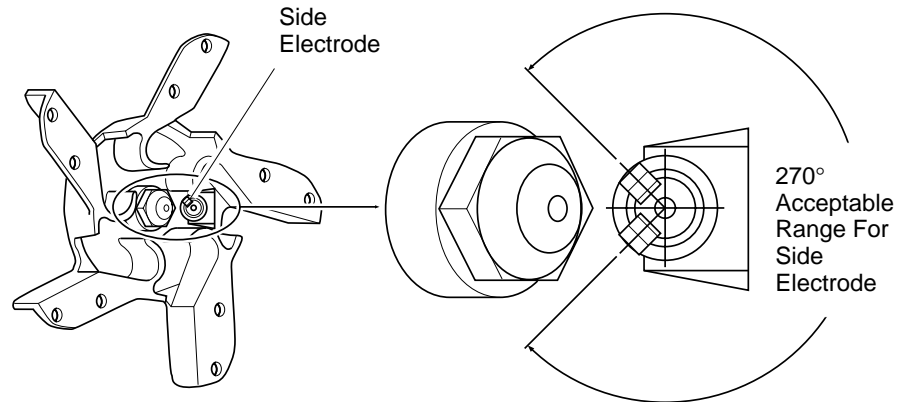

Figure 14 - Acceptable Range For Side Electrode
6. Install spark plug and wave spring washer in burner head. Torque 40 to 60 inch-pounds. Then adjust (if necessary) to bring side electrode into the acceptable range (see Figure 14).